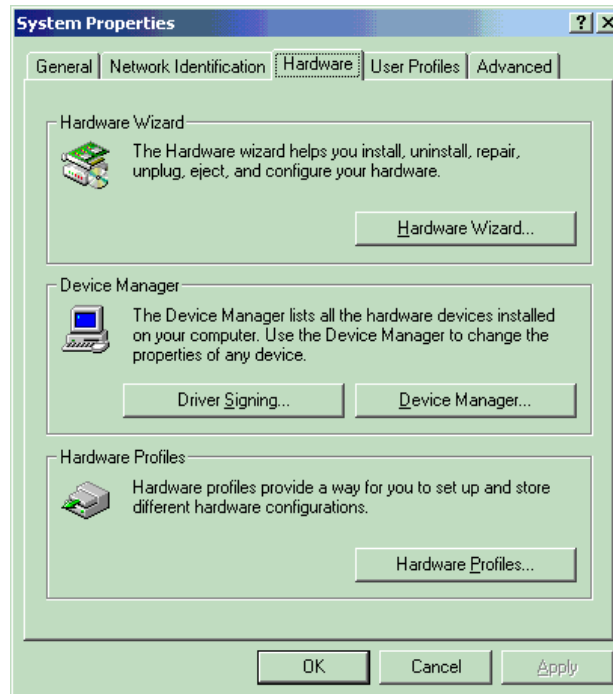

Figure 157. System Properties Window
1. Right-click the My Computer icon on your desktop, and select **Properties**. The System Properties window opens (Figure 157).